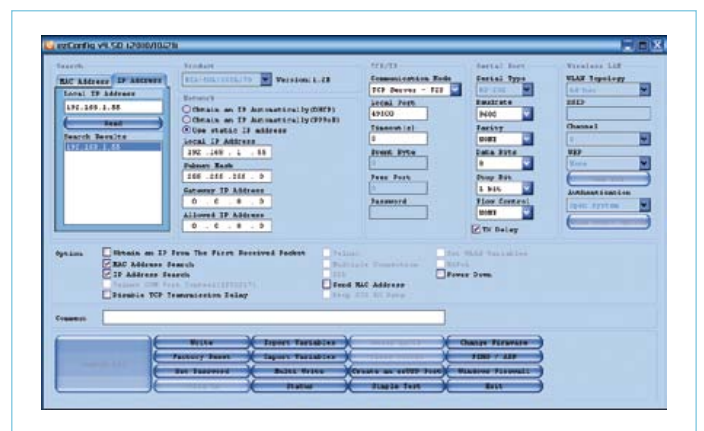

Figure 2. ezConfig for 'easy' configuration of the Sollae modules.
**Figure 2** shows which fields to fill in so as to configure the EZL-70 module with the help of the ezConfig[1] utility. Remember to set Timeout — the value '0' inhibits it. Here, it's set to 5 s. If the client fails to close the connection of its own accord, after 5 s the module will do it, thereby making it available once again.